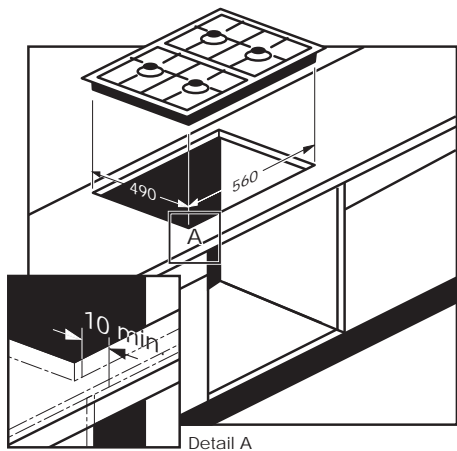

fig. 3
- Using the template mark the area to be cut away (490x560 mm) on the unit (see fig. 3).
The area to be cut away at the front (see fig. 3, detail A) is measured from 10 mm from the body of the cupboard (cupboard front without door).